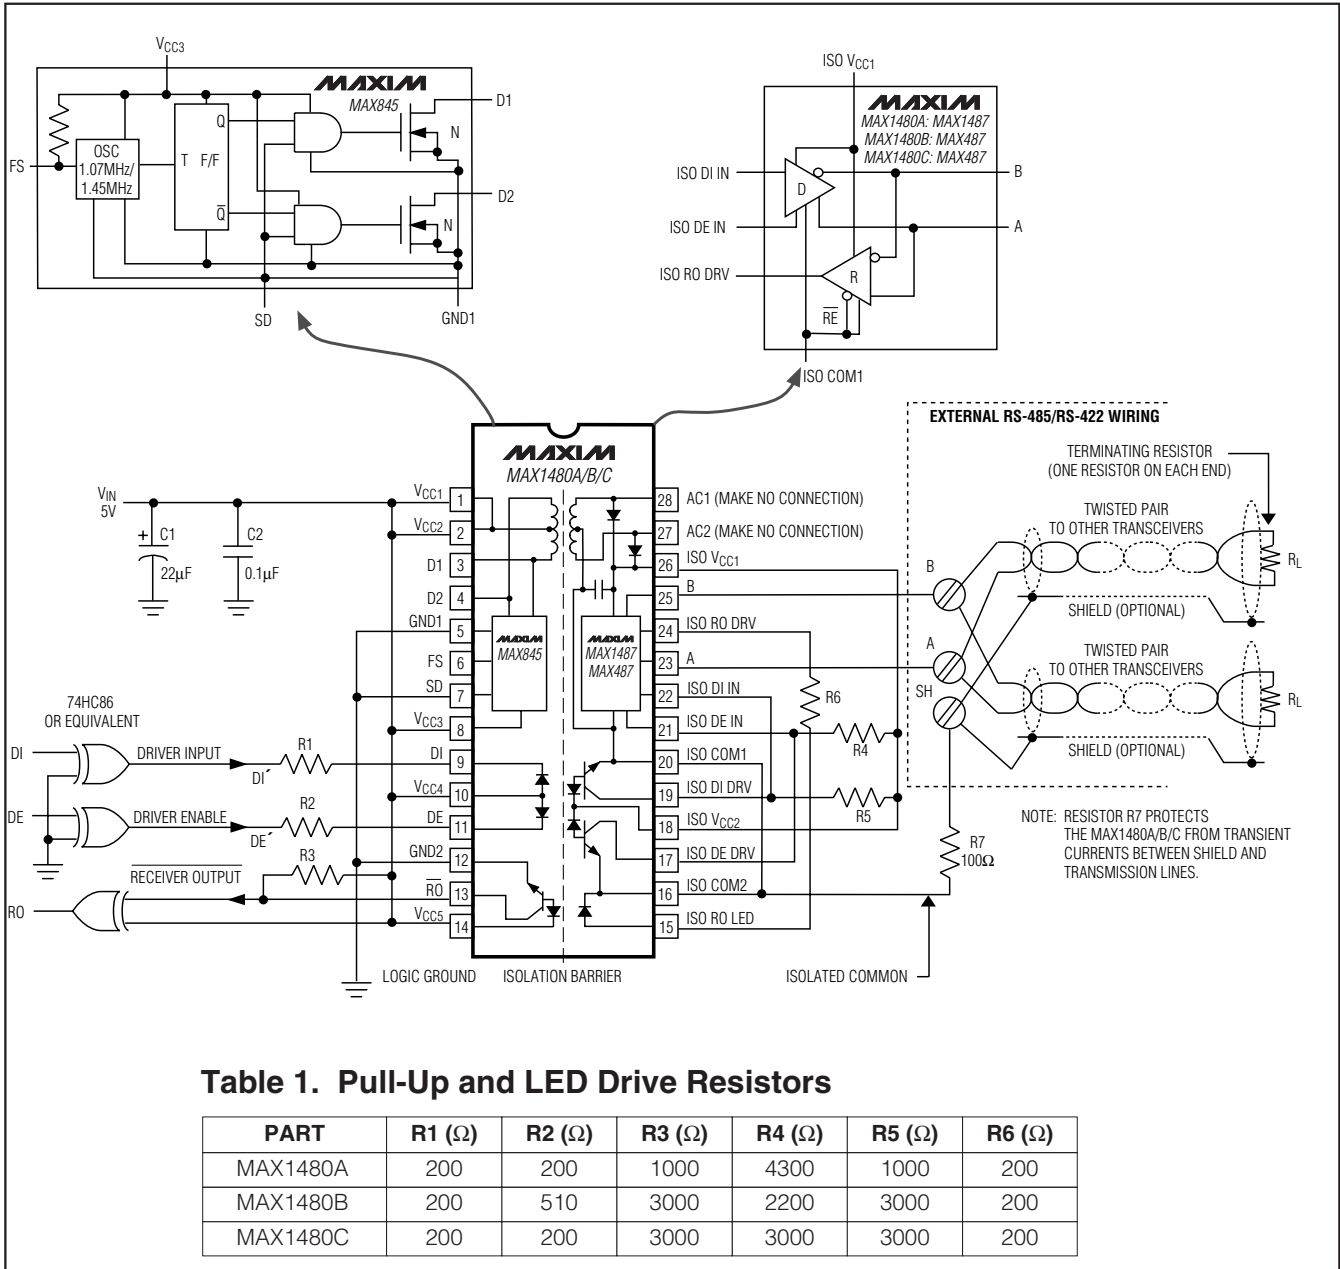
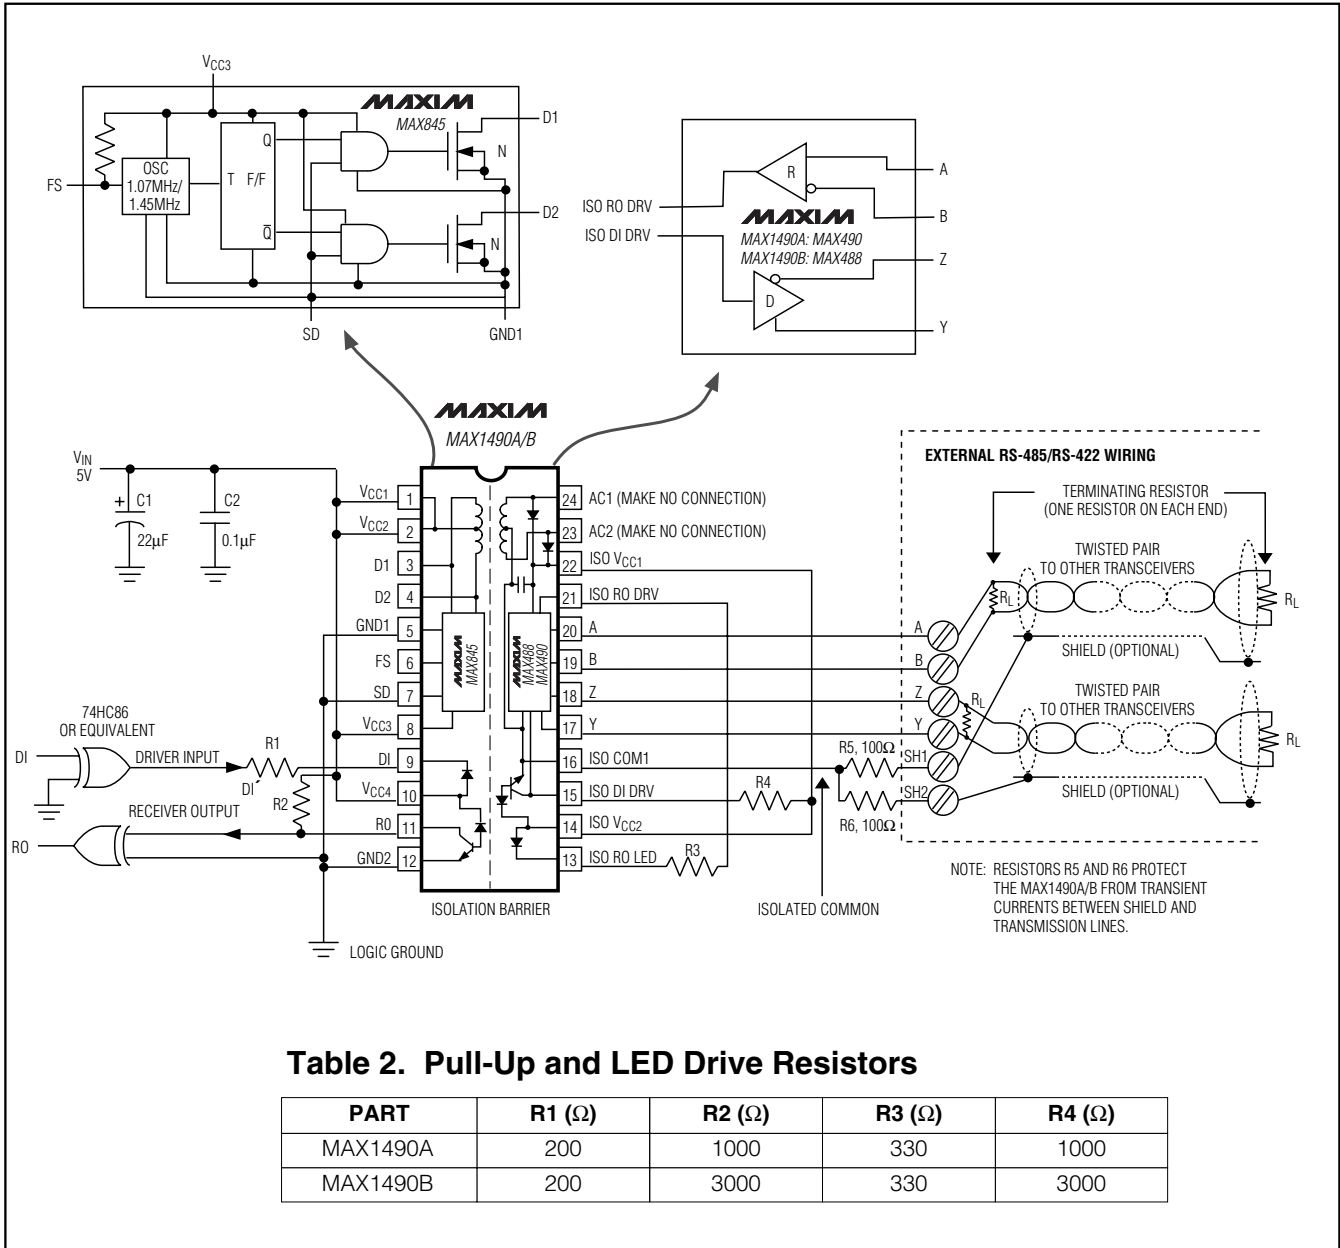

Figure 1. MAX1480A/MAX1480B/MAX1480C Detailed Block Diagram and Typical Application Circuit
Figure 2. MAX1490A/MAX1490B Detailed Block Diagram and Typical Application Circuit
Note 2: For DE⁺ and DI⁺ pin descriptions, see *Detailed Block Diagram and Typical Application Circuit* (Figure 1 for MAX1480A/MAX1480B/MAX1480C, Figure 2 for MAX1490A/MAX1490B).
Note: For DE⁺ and DI⁺ pin descriptions, see *Detailed Block Diagram and Typical Application Circuit* (Figure 1 for MAX1480A/B/C, Figure 2 for MAX1490A/B).
The MAX1480A/MAX1480B/MAX1480C/MAX1490A/MAX1490B are complete, electrically isolated, RS-485/RS-422 data-communications interface solutions. Transceivers, optocouplers, a power driver, and a transformer in one standard 28-pin DIP package (24-pin for the MAX1490A/B) provide a complete interface. Signals and power are internally transported across the isolation barrier (Figures 1, 2). Power is transferred from the logic side (nonisolated side) to the isolated side of the barrier through a center-tapped transformer. Signals cross the barrier through high-speed optocouplers. A single +5V supply on the logic side powers both sides of the interface. The MAX1480A/B/C offer half-duplex communications while the MAX1490A/B feature full-duplex communication. The functional input/output relationships are shown in Tables 3–6.
* For DE' and DI' pin descriptions, see *Detailed Block Diagram and Typical Application Circuit* (Figure 1 for MAX1480A/B/C, Figure 2 for MAX1490A/B).
The MAX1480A/MAX1480B/MAX1480C/MAX1490A/MAX1490B are specified and characterized using the resistor values shown in Table 1 of Figure 1 and Table 2 of Figure 2. Altering the recommended values can degrade performance.
The isolated common may be completely floating with respect to the logic ground and the effective network ground. The receiver input resistors will cause the isolated common voltage to go to the mean voltage of the receiver inputs. If using shielded cable, connect the isolated common to the shield through a 100Ω resistor. In the case of the MAX1490, each shield should have its own 100Ω resistor (Figures 1, 2, 13, and 14).